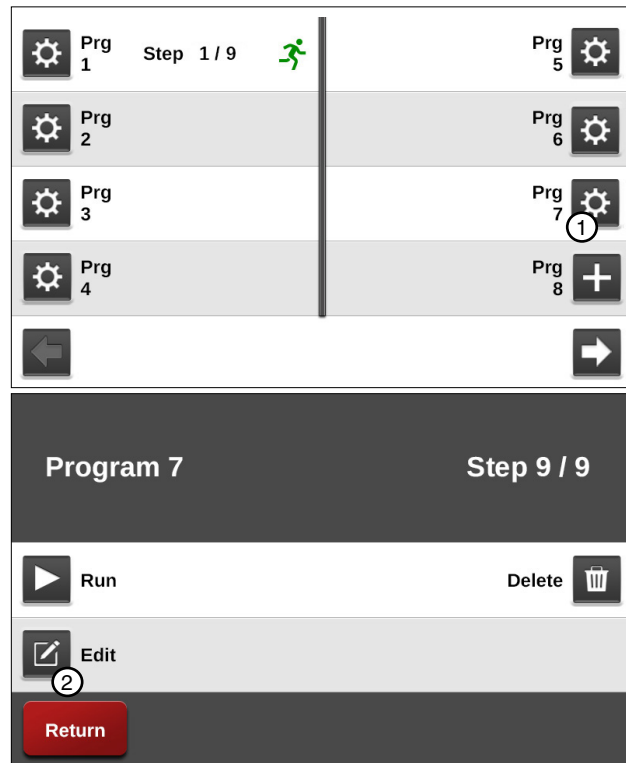

Figure 100-1 1. Settings
2. Push the **Settings** button corresponding to the program number. Refer to Figure 100-1.